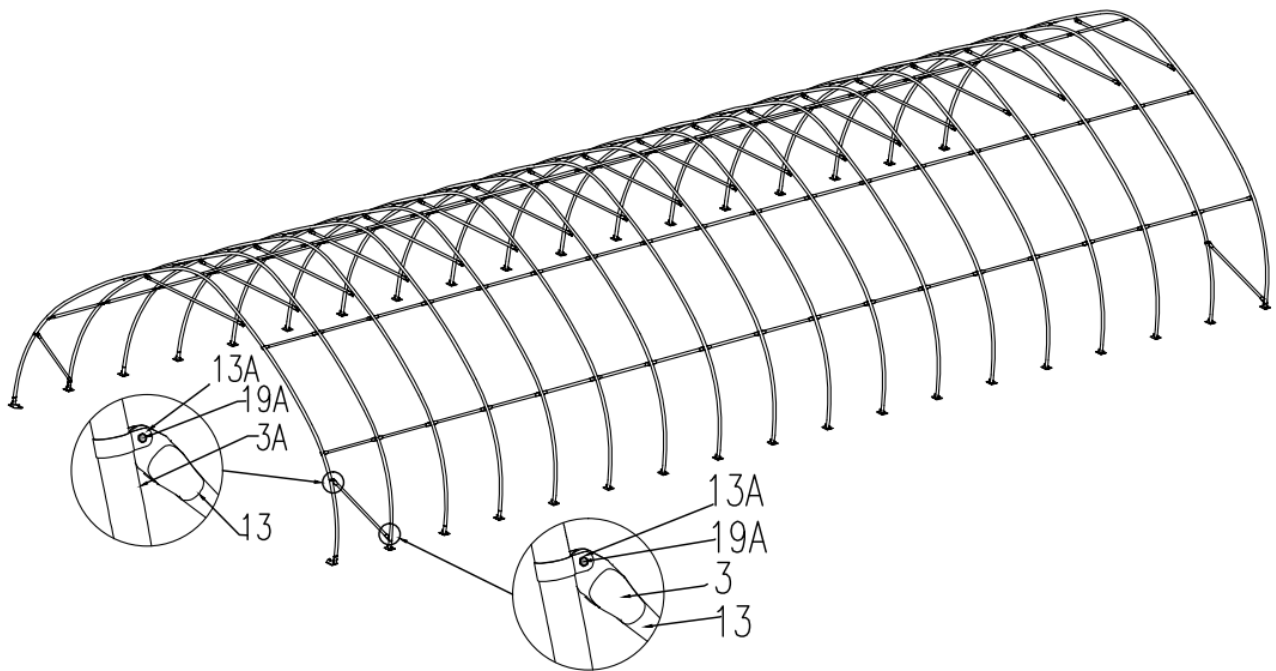

Figure 7
- Connect diagonal bracing bar (#13) on the first and last span to lower rafter tube (3A and 3) with tube clamp (#13A), use bolt (#19A) (figure 7).